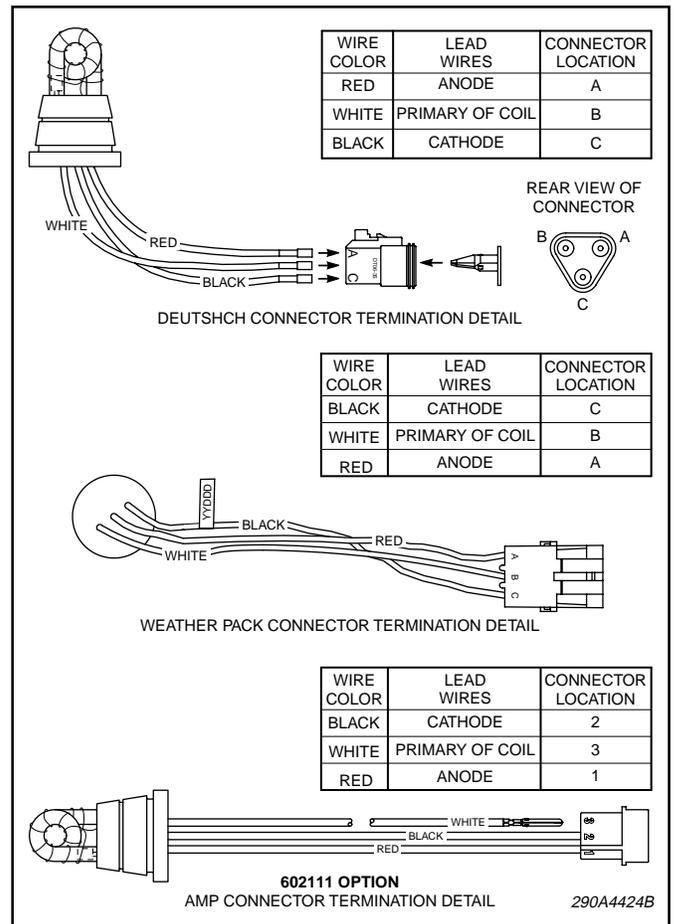

Figure 3.
6. Cut the 3-conductor cable (from the power supply) to the proper length. Perform the electrical connections using the quick connect terminals as described in the instructions packed with the power supply. See figure 3 for pin-out detail. Test the unit for proper operation.